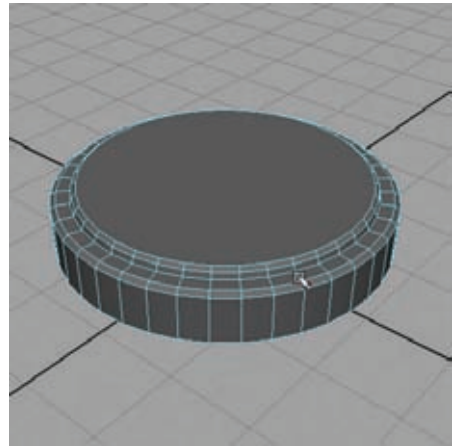

Figure 8.1
3. Extrude again, bringing the extrusion up, and scale it inward slightly. Apply another Bevel to the topmost face to again round the edge. This creates a round pedestal shape like you see in Figure 8.1.